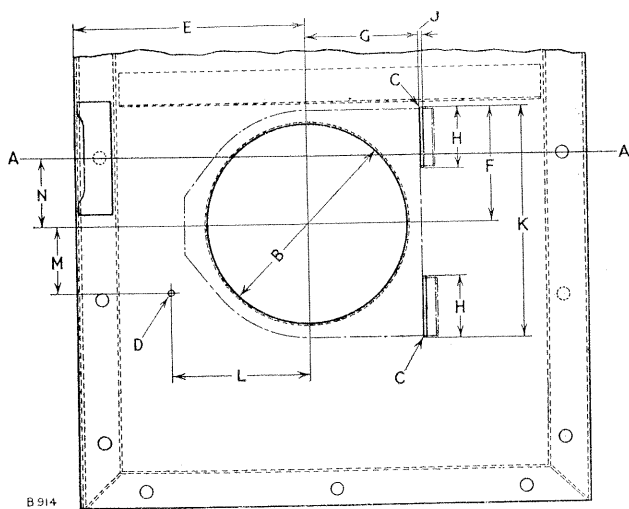

Fig. T-2—Cutting and drilling seat box centre inspection panel, early type
6. Mark out and cut one hole 7 in. (177 mm) diameter and two slots  $\frac{1}{8}$  in. (3 mm) wide and 2  $\frac{1}{16}$  in. (52 mm) long, and drill one hole .204 in. (5 mm) diameter in the panel as illustrated in Fig. T-2.